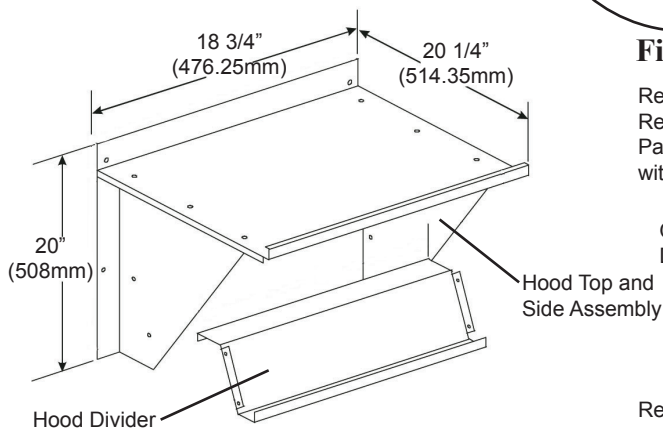

Fig. 4 - Hood Assembly
10. Remove the hood parts from the economizer package. Assemble as shown in Fig. 4 by screwing together with provided #10 x 5/8” screws.